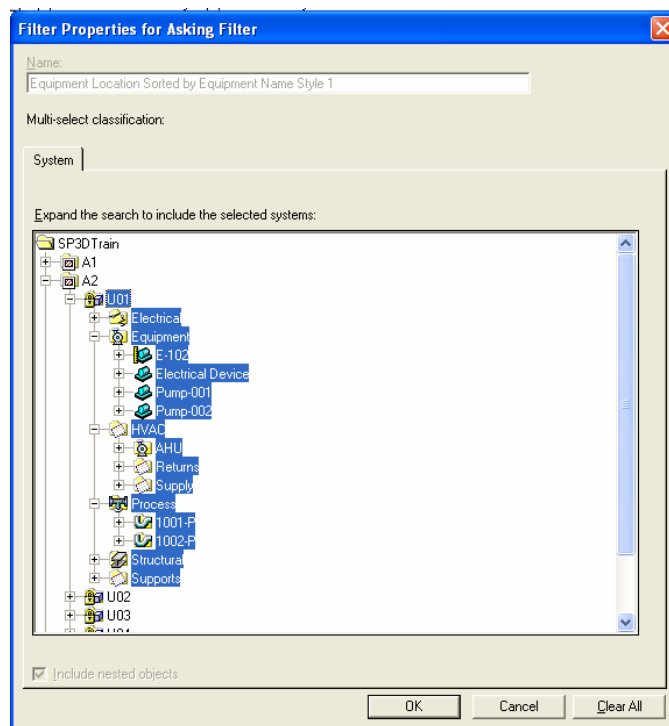

Figure 22: Filter Properties For Asking Filter Dialog Box
6. The software prompts for parameters or a filter if the selected report template requires these inputs. In the **Filter Properties for Asking Filter** dialog box, select Unit **U01** to include as a parameter in the report, as shown in Figure 22.